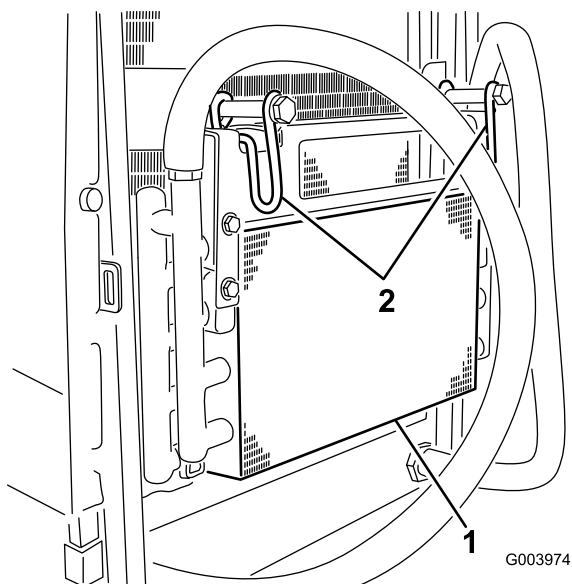

Figure 58
5. Pivot the latches inward to release the oil cooler (Figure 58).